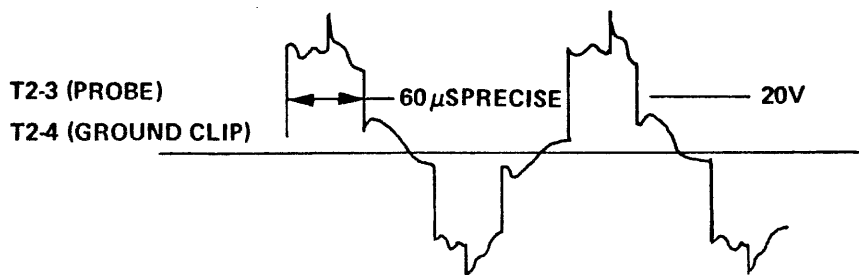

Figure 4-12. Inverter Pulses
- d. Adjust the VCO card DELAY control (R37; R61 on master/slave capable supplies) to obtain an inverter pulse length of  $60 \pm 2$  usec. Refer to figure 4-12.